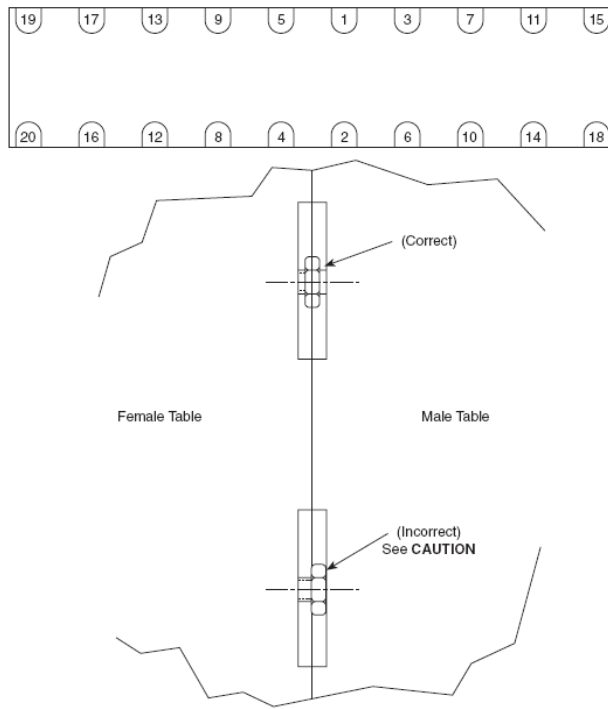

Figure 13— Double Bolt Tightening Sequence
10. When all bolts are snug, apply a final torque of 60 pound-feet (80 N-M) to all bolts using the sequence shown in Figure 13.